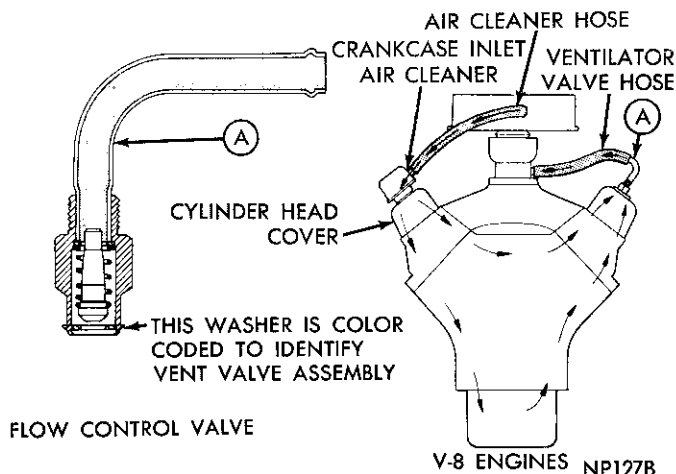

Fig. 1—Fully Closed Ventilation System
(1) A fully closed crankcase ventilation system is installed on all vehicles. The fully closed ventilation system operates by air drawn into the crankcase from the air cleaner and through the crankcase inlet air cleaner by means of a hose (Fig. 1).